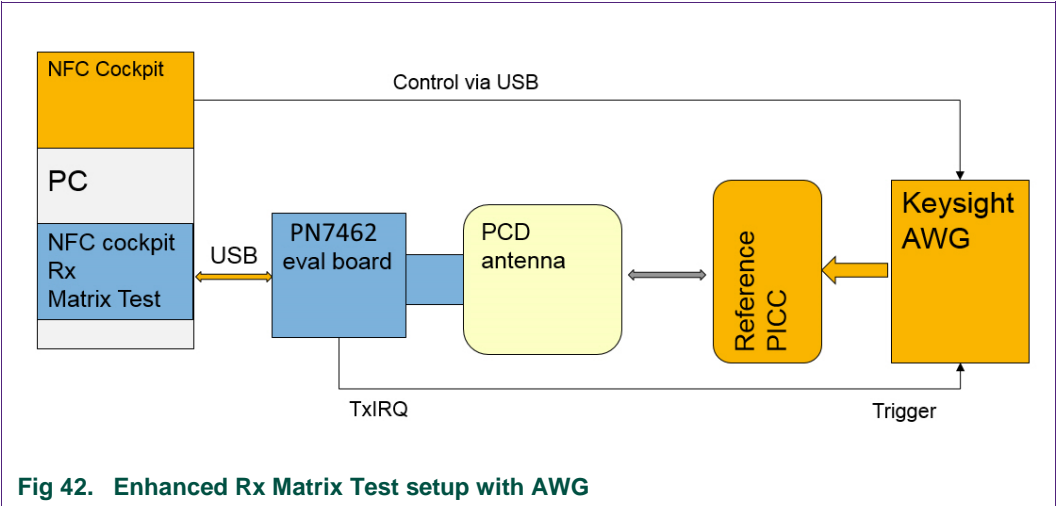

Fig 42. Enhanced Rx Matrix Test setup with AWG
Of course, the real smart card does not allow to vary the load modulation level, which helps to find the optimum (sensitivity). So, an extended test setup as shown in Fig 42 can be used to control the LMA voltage level. This setup contains
Step 1: Setup the hardware as shown in Fig 42. Place the Reference PICC close to the PCD antenna.